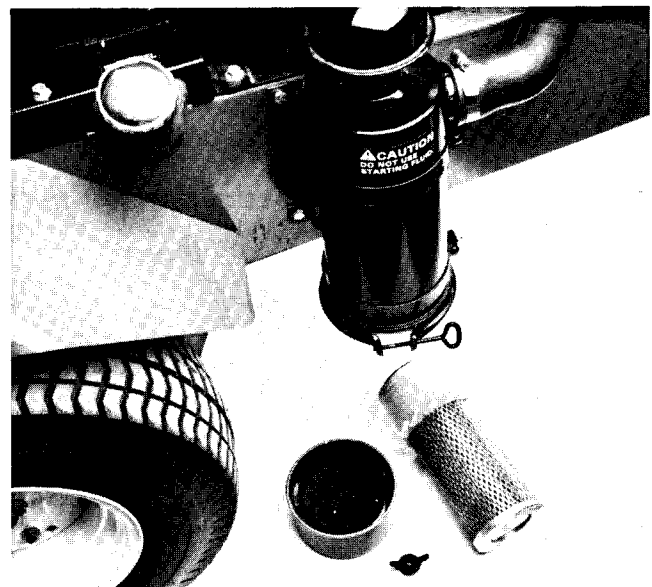

Figure 18
2. Remove the wing nut with gasket. Pull the filter element out of the air cleaner body (Fig. 18).